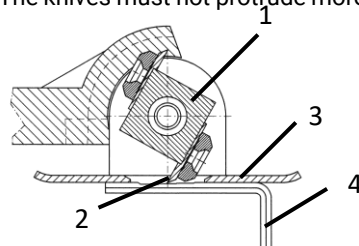

Fig. 13: Knife adjustment
- > Replace the knife (2 – Fig.13) if necessary.
- > Turn the cylinder (1 – Fig.13) so that the knife protrudes at maximum through the guide plate (3 – Fig.13).
- > Place the Allen wrench (4 – Fig.13) on the guide plate so that the notch with the desired cutting depth is under the knife.